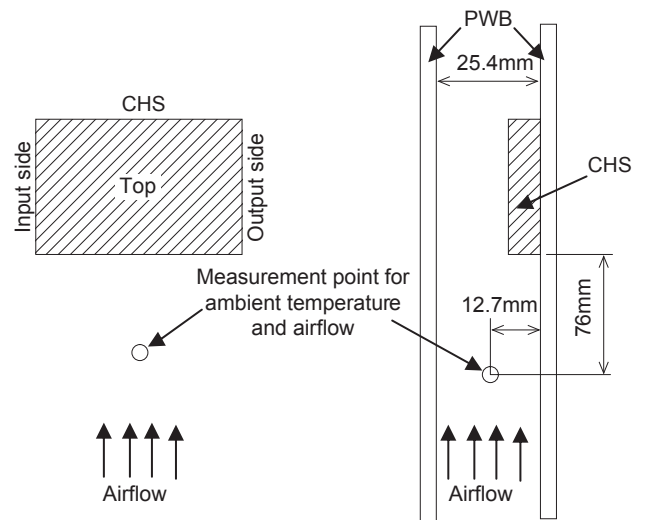

Fig.8.3 Measuring method
■ Shown the thermal curve with measuring as shown in Fig.8.3.